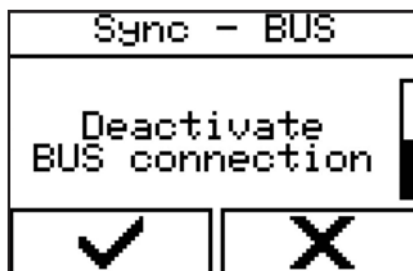

Figure 116 - Selecting a menu
1. Call up the menu via 'Control' → 'Sync-BUS settings' → 'Deactivate BUS connection' (Figure 116).